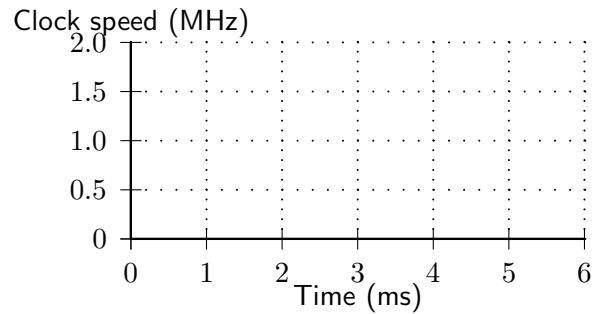

Abbildung 11: Offline YDS schedule for Aufgabe 3.1 (c)
- (c) (6 Punkte) For the same set of tasks, derive the *offline* YDS schedule. Plot the schedule in the timeline provided. Plot also the energy left in the battery vs. time in the graph provided. Please use Figures 11 and 12. Is this a valid schedule?